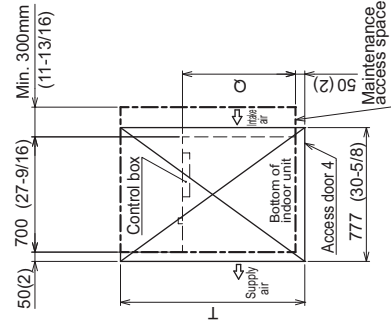

Fig.3 (Viewed from the direction of the arrow Y)
- (2) When a space of less than 300mm is available below the unit between the unit and the ceiling.
- (At least 20mm of space should be left below the unit as shown in Fig.3.)